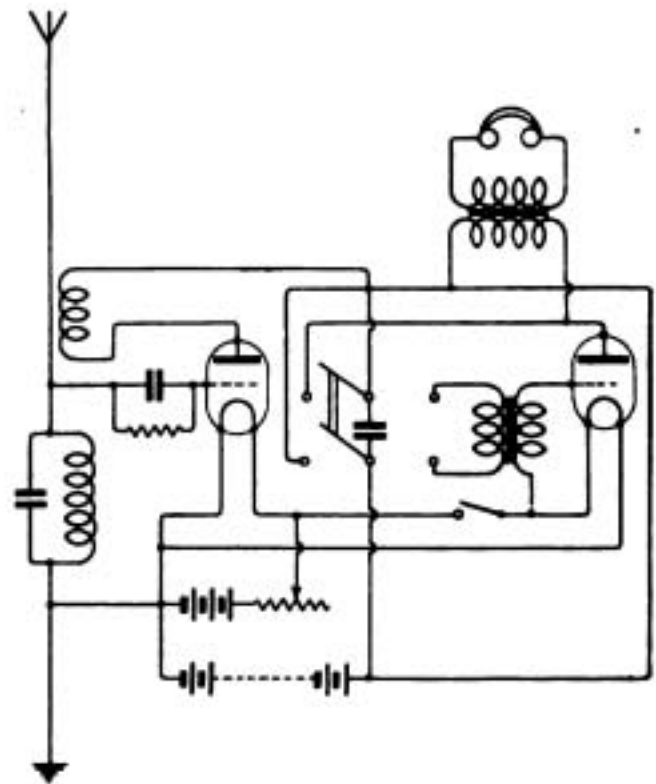

Fig. 4.
E.H.W. (Weymouth) asks for a circuit to add an additional valve to his set, the set to work on either one or two valves, which we give in Fig. 4.
H.V.C. (Manchester).—(1) To receive PCGG in your district it probably will be necessary to use at least two valves. We suggest that you try the two-valve circuit shown in Fig. 4, page 368, of the September 3rd issue, omitting the grid condenser and leak to the first valve. Use the existing tuning circuit with the addition of the reaction coil in the anode circuit of No. 2 valve. This should be 4" diameter, sliding in and out of the secondary former. Wind it with 4" of No. 26. Make the anode resistance 50,000 ohms, condenser 0.005 mfd., condenser leak 2 megohms. Your present tuning circuit is very suitable for wavelengths up to about 2,000 ms.
(4) A telephone transformer will be necessary. For details see reply to H.J.M. (Rochester) on page 366 of the September 3rd issue.